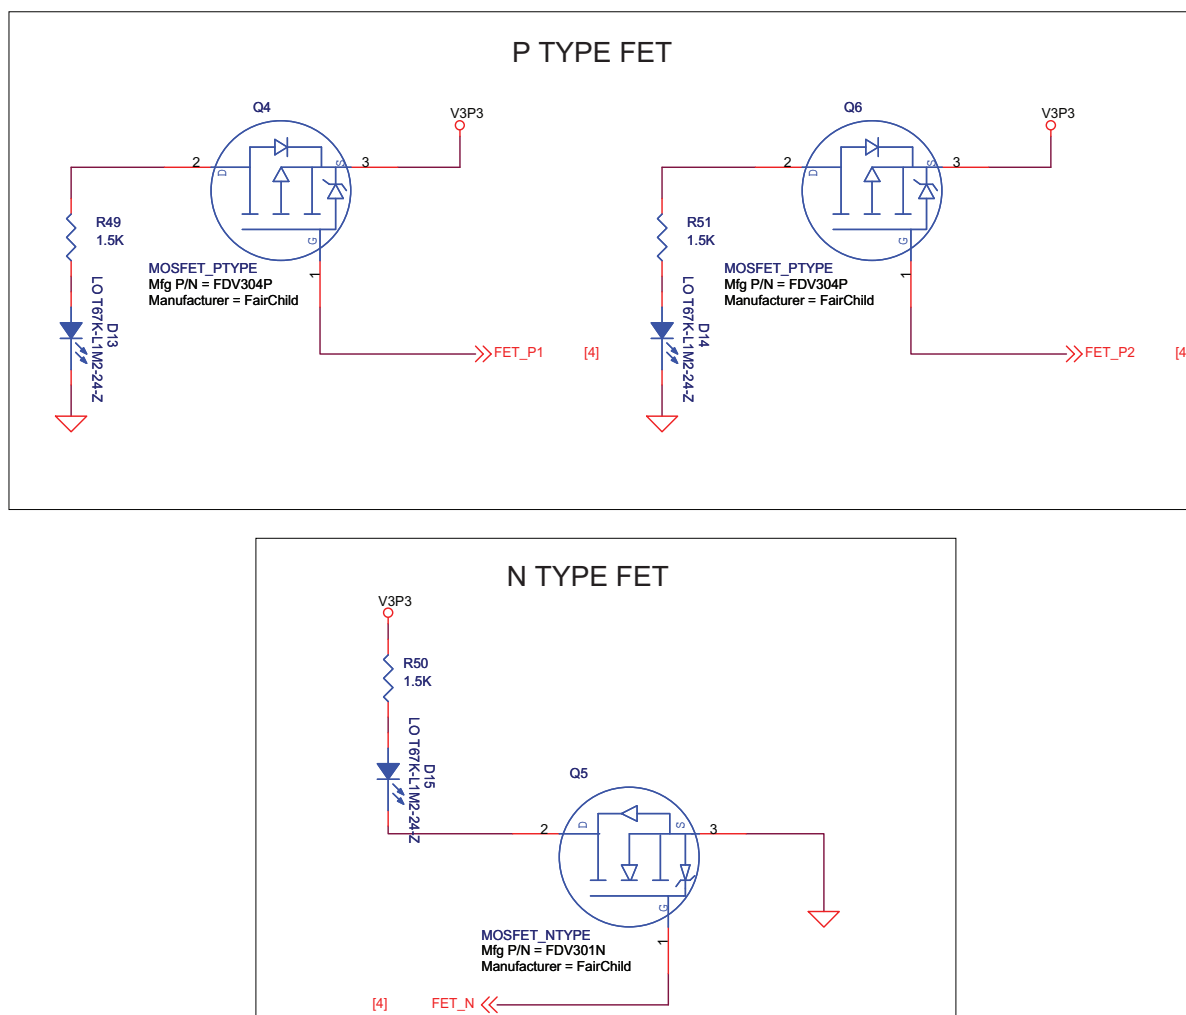

Figure 4-10 • FET LEDs for Debugging
These FET LEDs can be used for debugging, such as for viewing the state of I/Os in Flash*Freeze mode. These LEDs can be activated (ON) before entering Flash*Freeze mode, and have the ability to remain activated (ON) in Flash*Freeze mode. In low-power or Flash*Freeze mode, the FET LEDs can continue to function normally. There is one N-Type FET LED and two P-Type FET LEDs on the board (Figure 4-10). Refer to "Demo 4 – Flash*Freeze Variant: Configuration Settings of Demo Design" on page 52, which will help demonstrate the Flash*Freeze variants.